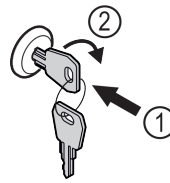

Fig. 73 Example illustration
- ▶ Insert key Fig. 73 (1).
- ▶ Turn key clockwise by 90° Fig. 73 (2).